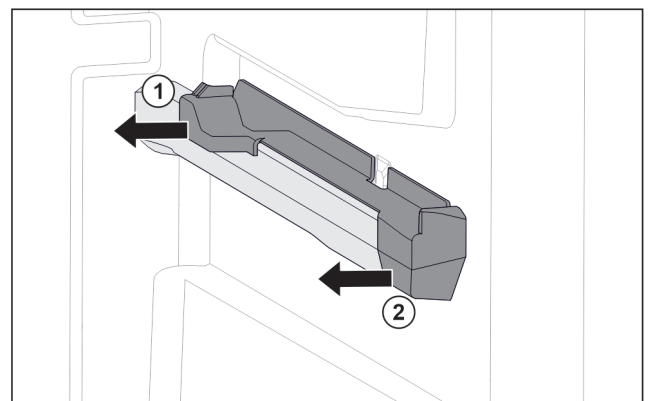

Fig. 122 Attachment on the right moulded rib
- ▶ Pull off attachment at the back sideways. *Fig. 122 (1)*
- ▶ Pull off attachment at the front sideways. *Fig. 122 (2)*